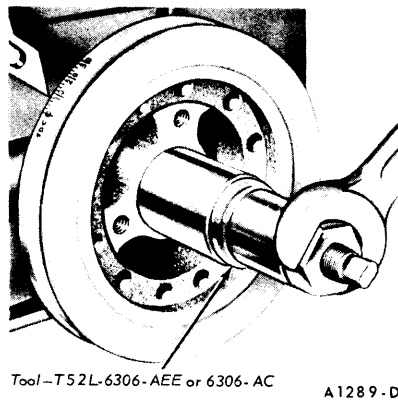

FIG. 35—Crankshaft Damper Installation
7. Lubricate the hub and line up the damper keyway with the key on the crankshaft. Install the damper on the crankshaft (Fig. 35).